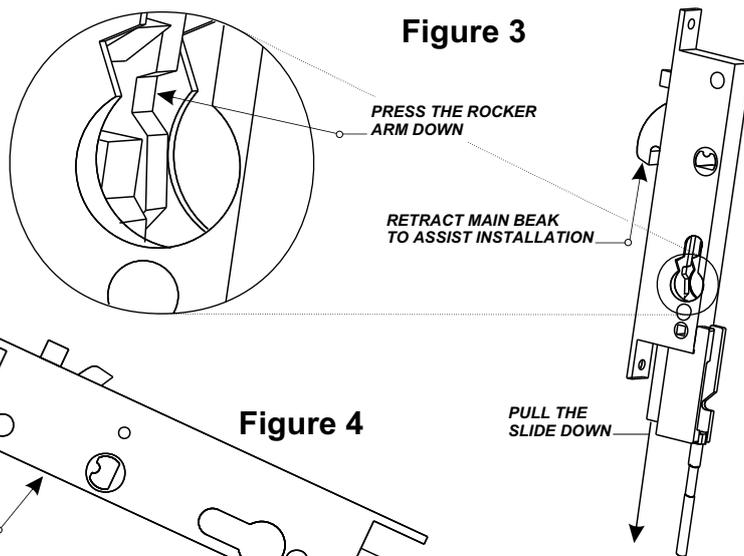

Figure 3
- 2 Unlock the lock by pressing on the **rocker arm** and pulling the **slide** down from the centre lock until it stops (Figure 3).